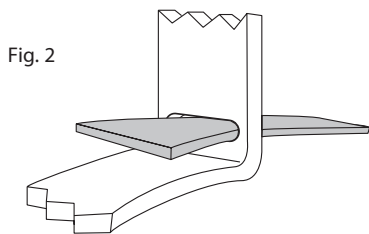

Fig. 2
2. Secure closure to bracket using stainless-steel hose clamps or steel straps (hose clamp or strap goes through slot in bracket as shown in Fig. 2).